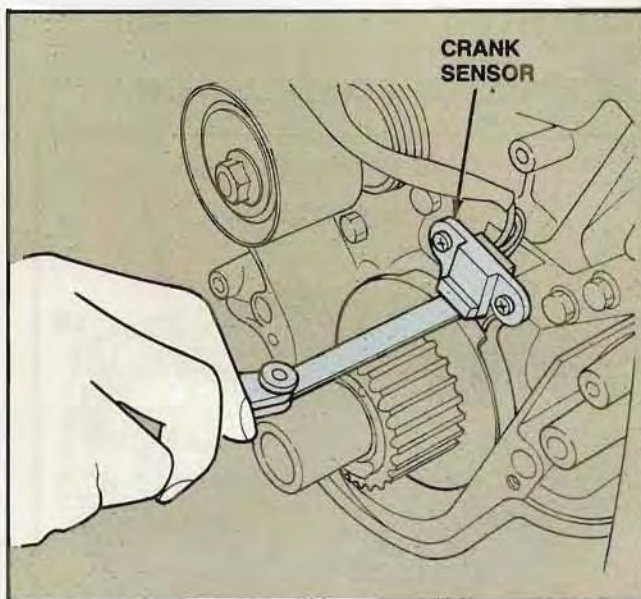

Figure 125. Adjusting Crankshaft Sensor Gap
2. Install the crankshaft sensor and crankshaft sprocket (Fig. 125).